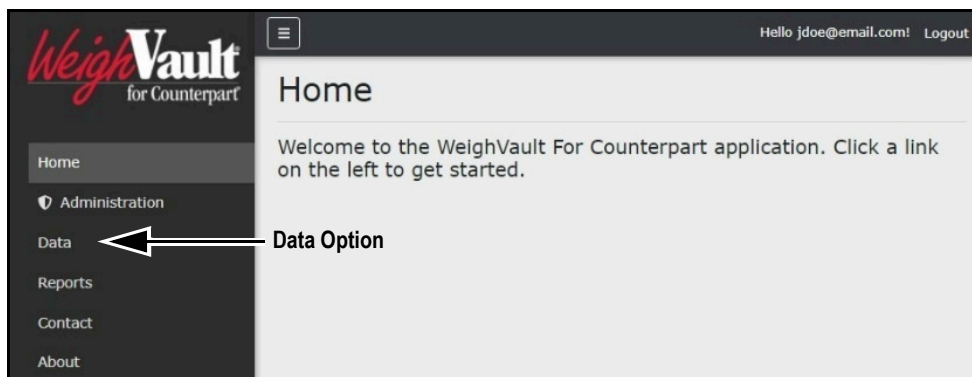

Figure 5-2. Main Menu Data Option
- Add a Part (see Figure 5.2 on page 35)